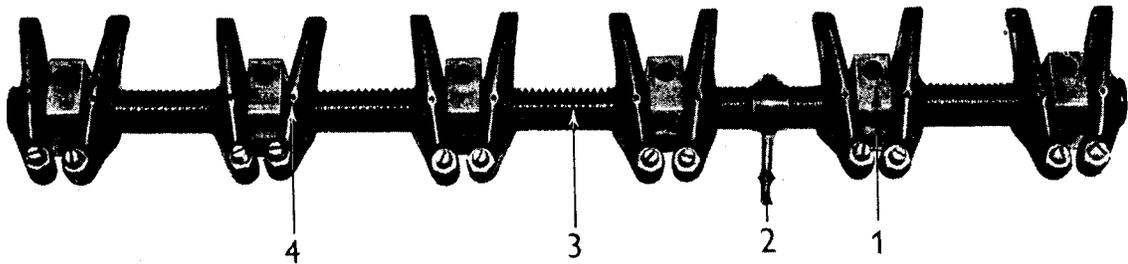

Fig. E.12. Rocker Shaft Assembly.
Rocker Shaft Assembly (Fig. E.12)
2. Refit the support brackets, springs and rocker levers in the correct order (Fig. E.12).